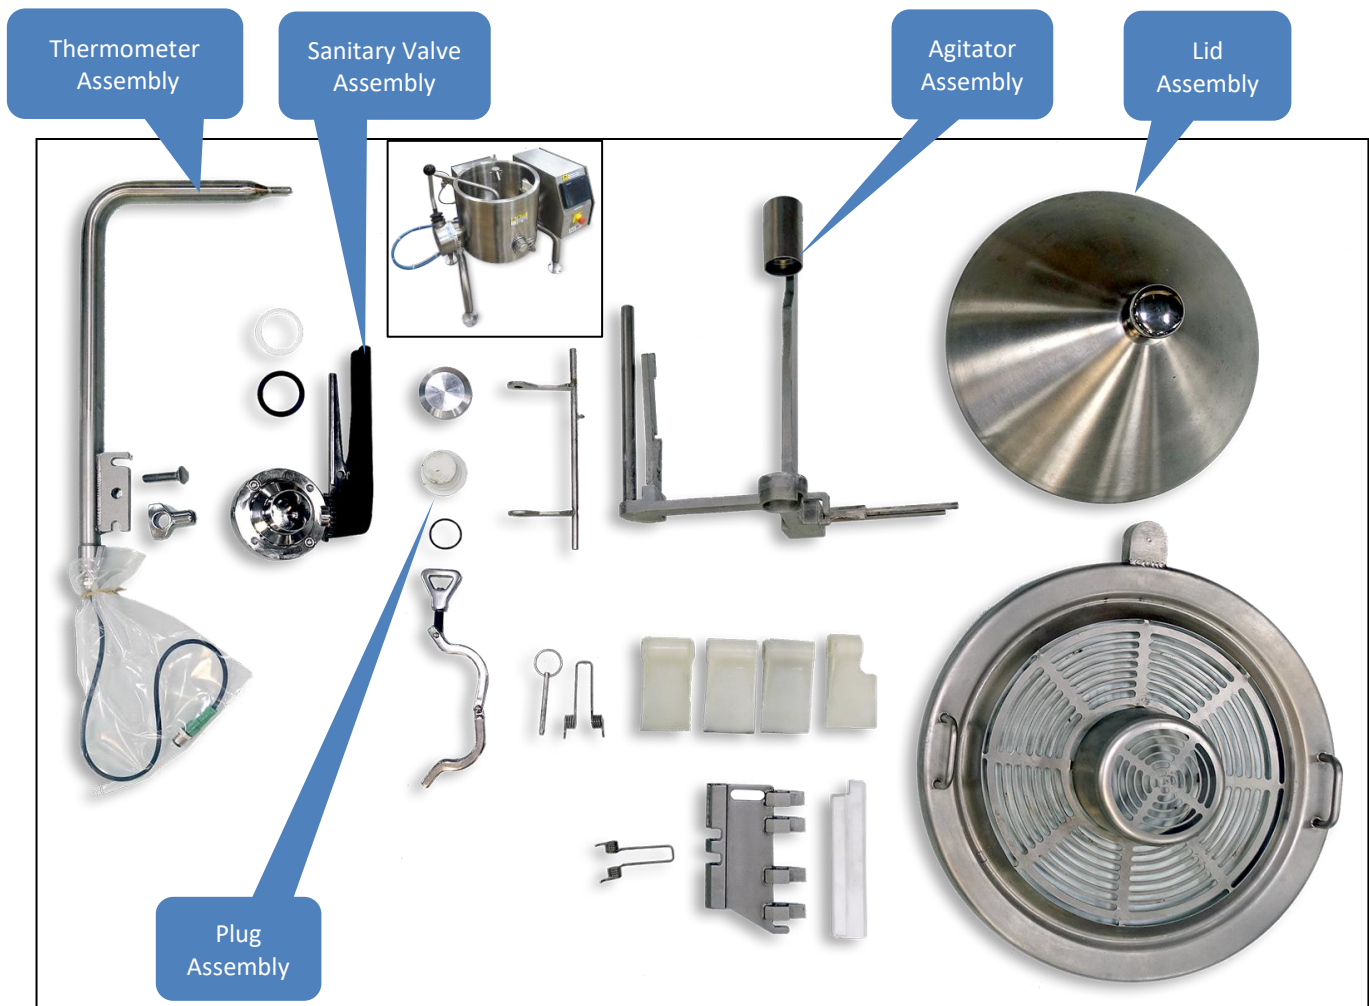
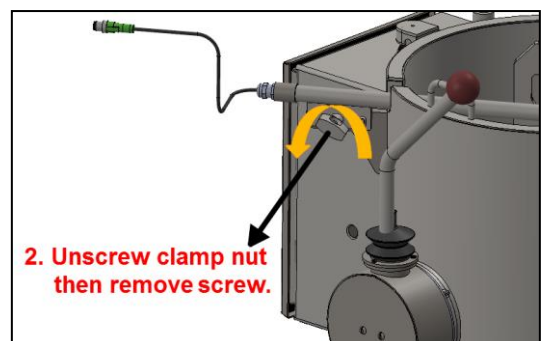
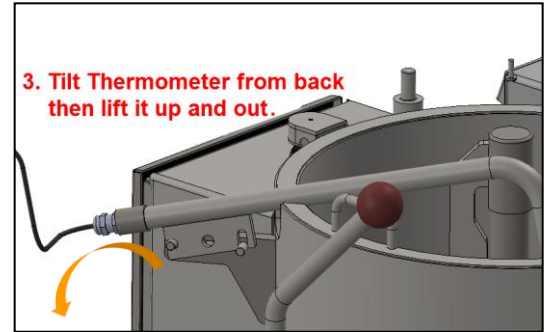
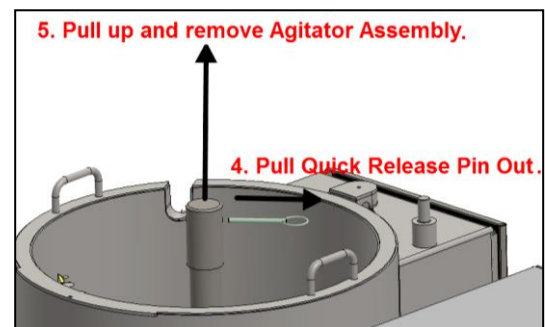

Figure 1
Figure 5
Figure 6
Figure 7
Refer to Fig. 1 for photos of above listed Assemblies
CAUTION IF THE UNIT IS TILTED WITHOUT THE QUICK RELEASE PIN IN PLACE THE AGITATOR CAN FALL OUT, REFER TO FIG. 1 & FIG. 2.
1. Place all the components of the removable assemblies, which are the Agitator Assembly, Lid Assembly, Thermometer Assembly, Plug Assembly and when equipped, Sanitary Valve Assembly in a three-compartment wash basin, Fig. 1 & Fig. 3. They will all need to be cleaned, rinsed and sanitized per NSF Guidelines and applicable local codes.
1. Lift up on the handles of the of the Lid, being careful not to drop the Recessed Lid Cover on top of it, Fig. 1 & Fig. 4.
1. Unscrew the clamp nut then remove the screw, Fig. 1 & Fig. 5.
2. Tilt the Thermometer from the back then lift it up and out of housing, Fig. 1 & Fig. 6.
1. Pull the Quick Release Pin out (Fig. 1 & Fig. 7) and then lift up the agitator using insulating gloves as the Agitator may be hot.
1. After removing the agitator, place it on a flat surface, with the front part of the bottom Teflon scraper facing you, Fig. 1 & Fig. 8.
2. Push out the Plug Assembly from the inside of the FM-14, Fig. 1 & Fig. 9.
1. If the FM-14 is equipped with a Sanitary Valve, first remove the Z Clamp, then remove the Sanitary Valve Assembly, and gasket, Fig. 1 & Fig. 10.
1. Place all assemblies in the “Clean” compartment of the three-compartment wash basin (refer to Fig. 1 & Fig. 3).
1. When cleaning is completed, place all components in the “Rinse” compartment, Fig. 1 & Fig. 3.
1. When rinsing is completed, place all components in the “Sanitize” compartment, Fig. 1 & Fig. 3.
1. When sanitizing is completed, place all components in a clean, dry area, Fig. 1.